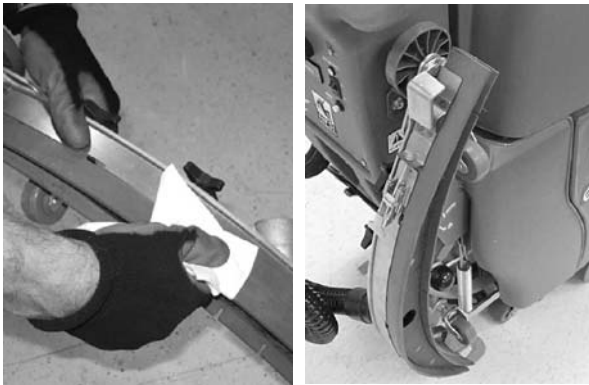

FIG. 43
7. Wipe the squeegee blades clean. When machine is not in use, raise the squeegee assembly off the floor or hang it on the storage bracket (Figure 43).